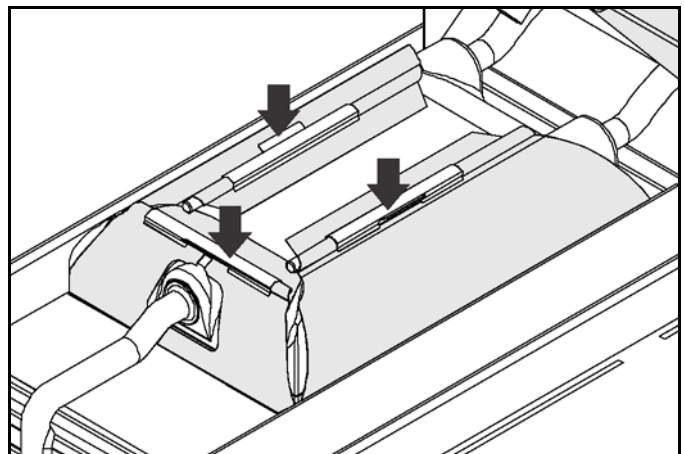

Figure-132
41. Reinstall the upper release sheets prior to use. See Figure-132.